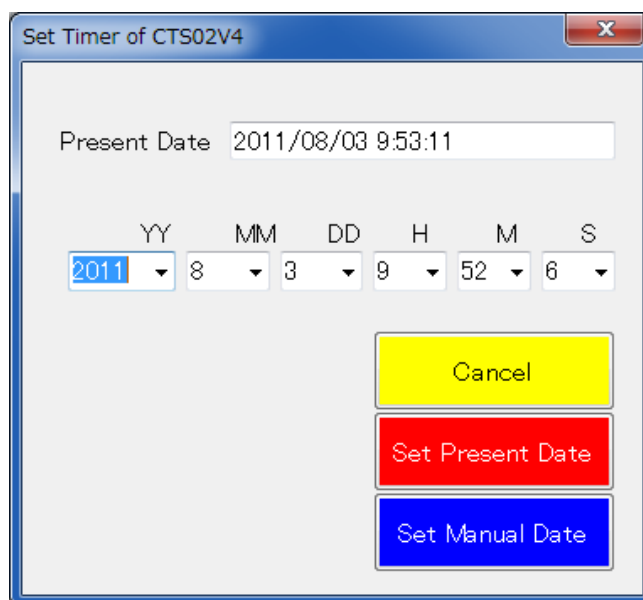

Fig.5.4-1 Dialog Window for Setting Date and Time
- The parameters can be confirmed using [Show Parameter] button ⑨.
- When clicking the button ⑨, the parameters can be displayed. You cannot, however, edit or write the parameters.
- Click [Timer Set] button ⑦ at the initial screen of CTS-02V4-PC.
- The dialog window for setting date and time is shown in Fig.5.4-1.